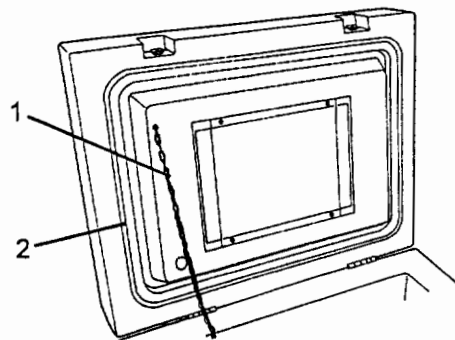

Figure 4-7 — Installing Lid Seal
411. The lid seal (1) is a very important component in keeping the interior of the unit at the required temperature (Fig 4-7).
412. To replace the seal release the lid holding chain (2) at one end (Fig 4-7).